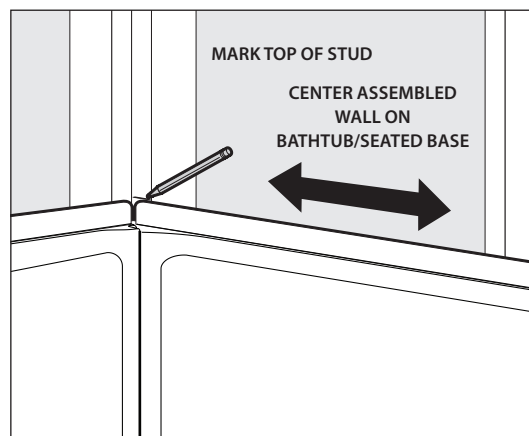

FIGURE 7. Mark studs.
- f. Mark height of wall on each stud to indicate where to apply adhesive on the stud. (Fig. 7)